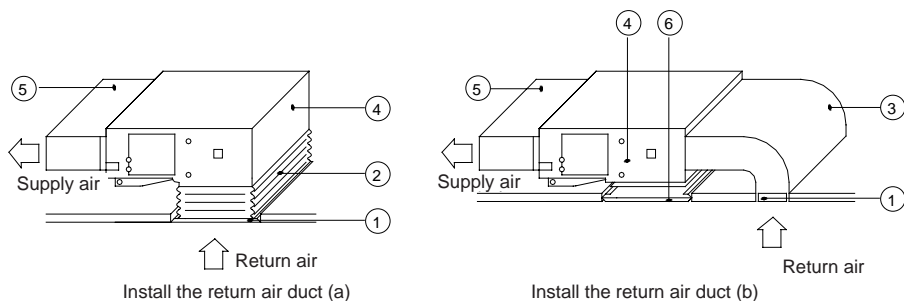

Fig.38
- (3). If the bottom return air is desired, just change the place of the rectangular flange and the return air cover plate.
- (4). Connect one end of the return air duct to the return air outlet of the unit by rivets and the other to the return air louver. For the sake of the convenience to freely adjust the height, a cutting of canvas duct will be helpful, which can be reinforced and folded by 8# iron wire
- (5). More noise is likely to be produced in the bottom return air mode than the backward return air mode, so it is suggested to install a silencer and a static pressure box to minimize the noise.
- (6). The installation method can be chosen with considering the conditions of the building and maintenance etc., as shown in Fig.38.